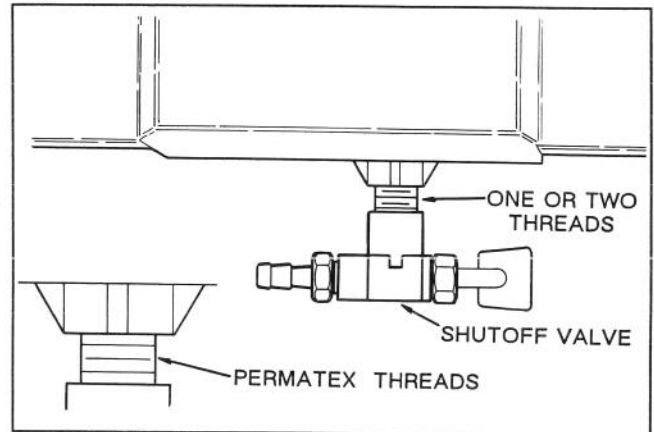

Figure 7
12. Carefully thread new shut-off valve into fuel tank one or two turns (Fig.7). Use care to avoid crossthreading.